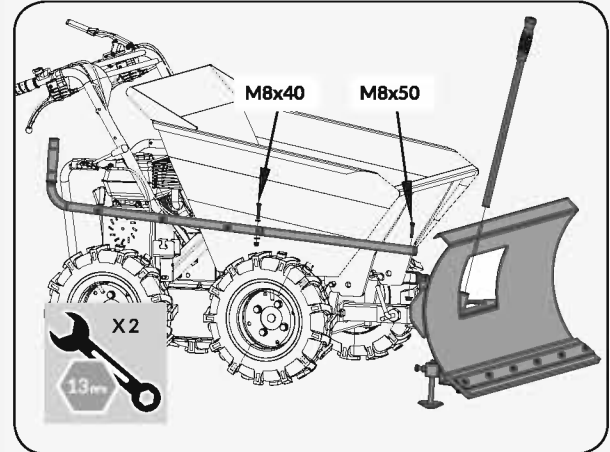

Figure 6d
5. Connect the angle control lever and extension by M8×40 bolt, washer and nut. Attach the extension to the blade with M8×50 bolt and nut. Lock the second pin of the angle control lever into the limit slot of the bracket. (See **Figure 6d**)